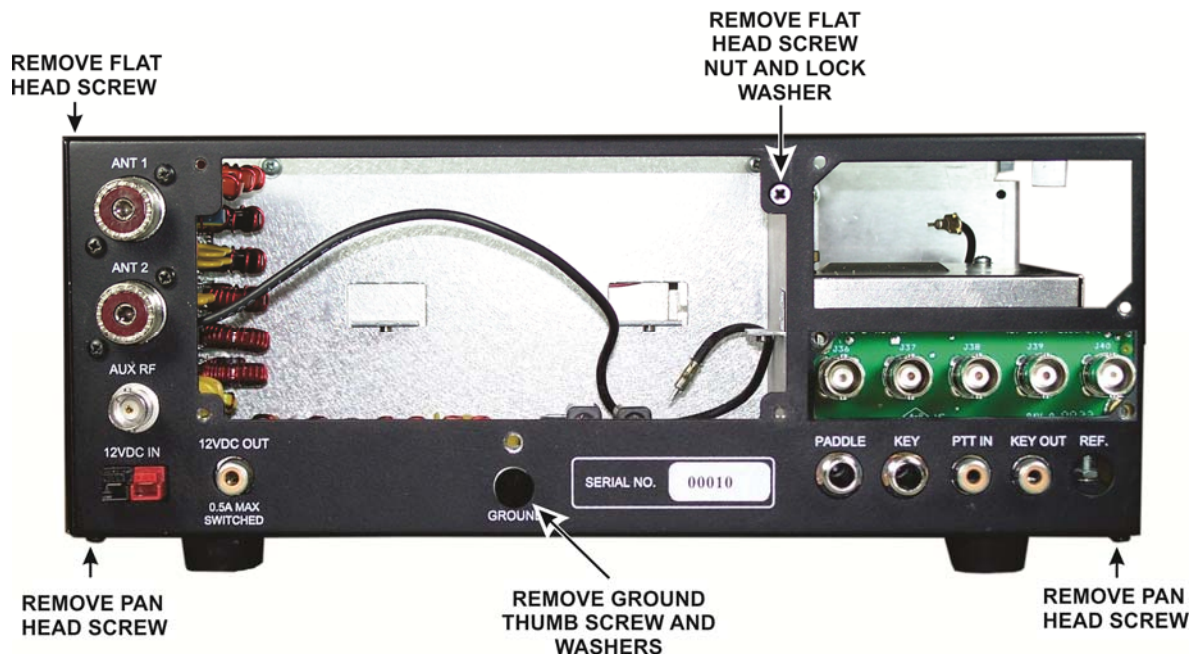

Figure 12. Removing the Rear Panel.
- Remove the hardware shown in Figure 12 to free the rear panel and set it aside.
Replace the rear panel on the K3 (see Figure 12 on pg 7) using the hardware you removed earlier: